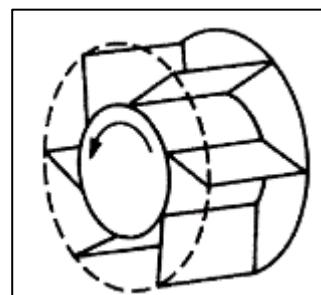

Figure A1(c) / Rajah A1(c)
- CLO2 (c) Figure A1(c) shows backward inclined fans. Based on the figure, explain **FOUR (4)** characteristics of the fan.
*Rajah A1(c) menunjukkan kipas melengkung ke belakang. Berdasarkan kepada rajah, terangkan **EMPAT (4)** ciri-ciri kipas tersebut.*